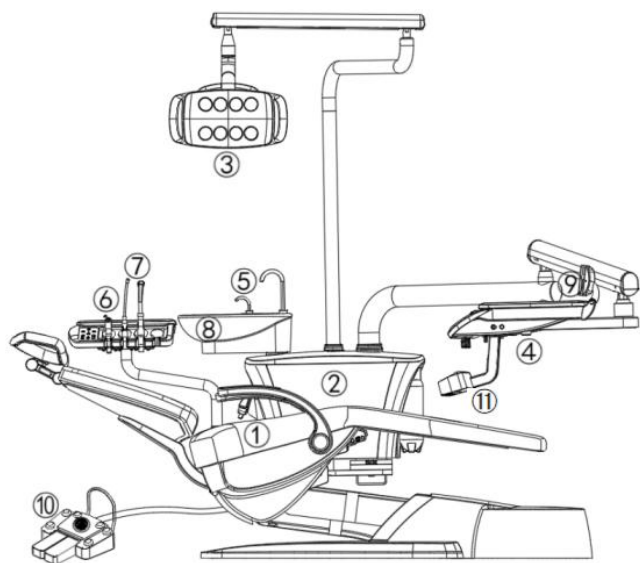

Figure 1 Whole machine diagram (M100 as an
2.1 Dental comprehensive treatment machine (Figure 1)